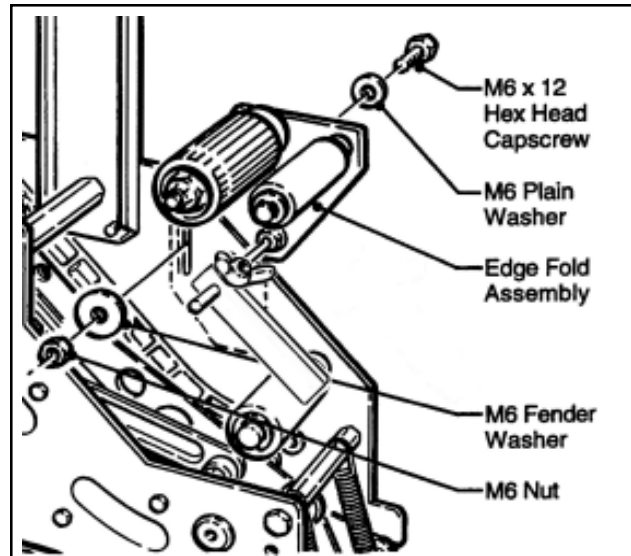

Figure 2
2. Attach the edge fold assembly to the back side of the taping head frame with the M6 x 12 hex head capscrew and plain washer (removed in step 1), along with the M6 fender washer and M6 hexnut as shown in Fig 2.